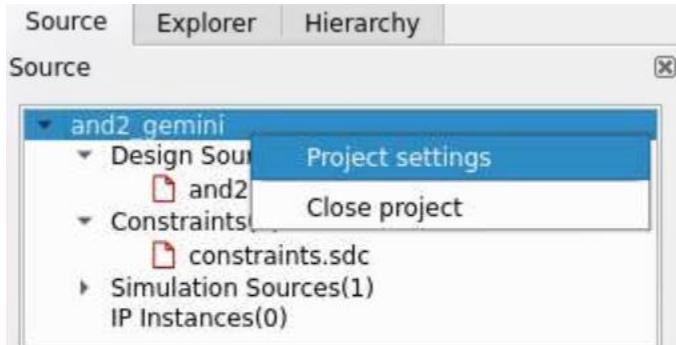

Figure 19. New Project Summary
10. Summary: Displays the summary of project for user to finish the project creation process as shown in Figure 19.